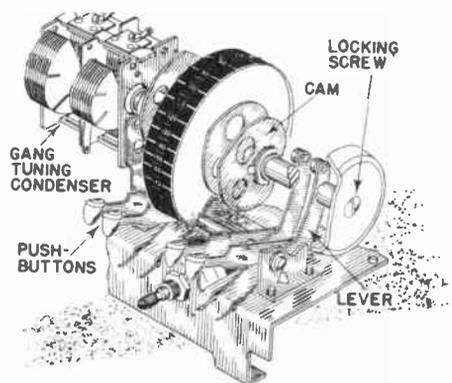

FIG. 5. Typical cam-and-lever mechanism used in mechanical automatic tuning systems.
**Cam-and-Lever Mechanisms.** A typical mechanism of this type is illustrated in Fig. 5. Each station button is on a pivoted lever having at its other end a roller which can be pressed against a heart-shaped cam (irregular-shaped metal disc) on an extension of the gang tuning condenser shaft. Pressure on the button forces the roller against the cam, making the cam rotate until the roller is at its lowest point (closest to the cam shaft). Somewhere on the mechanism is a locking adjustment which when tightened locks each cam to the shaft, by squeezing the cams between friction washers which are anchored to the shaft. Pressure on a button will thus cause rotation of the gang tuning condenser.
In the mechanism shown in Fig. 5, the locking screw is in the center of the manual tuning knob. In other mechanisms, the locking adjustment may be a knurled screw on the side of the receiver, a wing nut on the side of the dial assembly, a screw accessible from the back of the receiver, a screw which is exposed by removing the push-button escutcheon or removing a snap-in button on the escutcheon, or a screw accessible
*Inspect For Loose Parts;* Carefully examine each of the parts above and below the chassis. Now that you are learning radio, try to identify all parts by name. The photographs in Figs. 5 and 6, in which important parts are clearly labeled, may be of help to you in this respect. Do not expect to identify all parts, however, until you have studied them in your course.